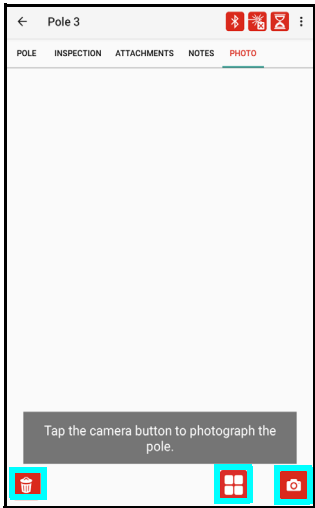

Figure 33
- Tap the  button to add a Photo (Figure 33).